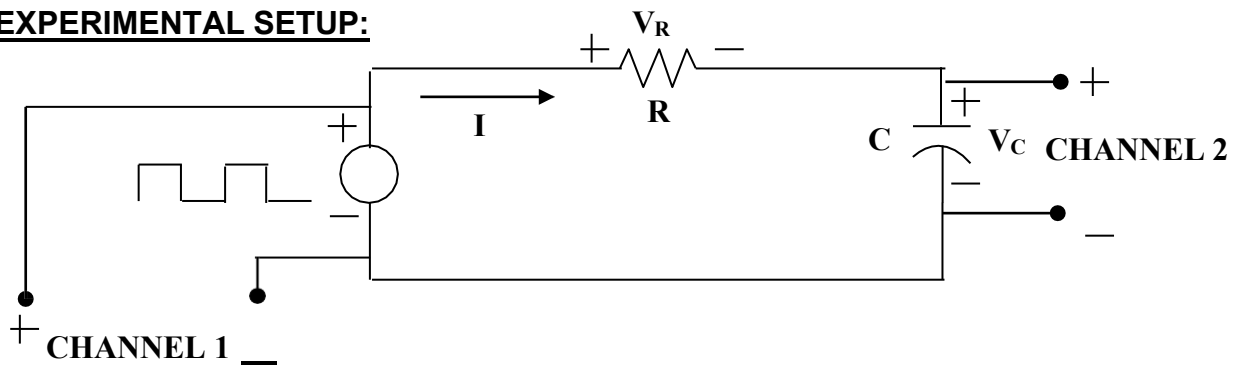

Fig.1
1. Setup the circuit as shown in figure 1.